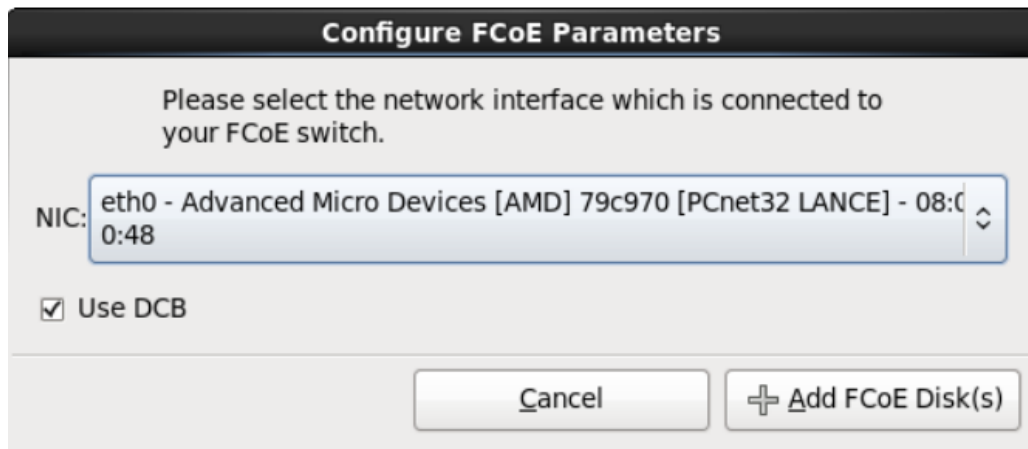

Figure 47 Configuring FCOE parameters
5. In the **Configure FCoE Parameters** dialog box, select the network interface that is connected to the FCOE switch, and then click **Add FCoE Disk(s)**, as shown in Figure 47.